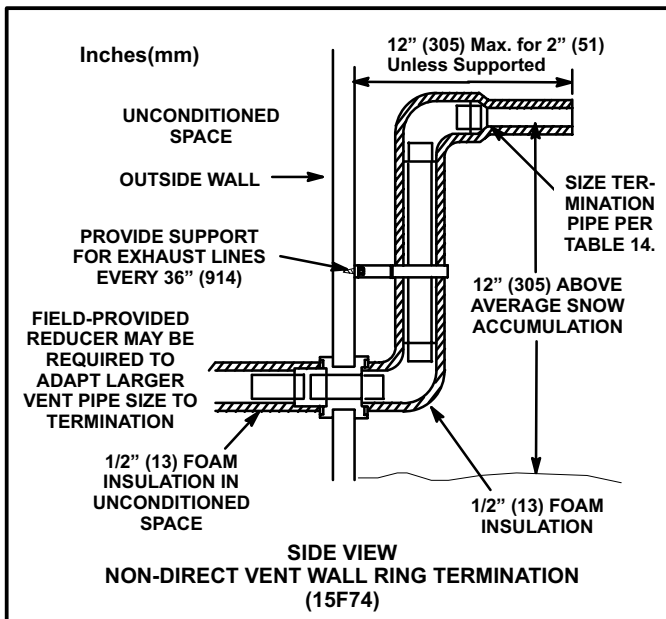

FIGURE 35
3. If exhaust piping must be run up a side wall to position above snow accumulation or other obstructions, piping must be supported every 3 feet (.9m) as shown in figure 18. Refer to figure 35 for proper piping method. When exhaust piping must be run up an outside wall, any reduction in exhaust pipe size must be done after the final elbow.